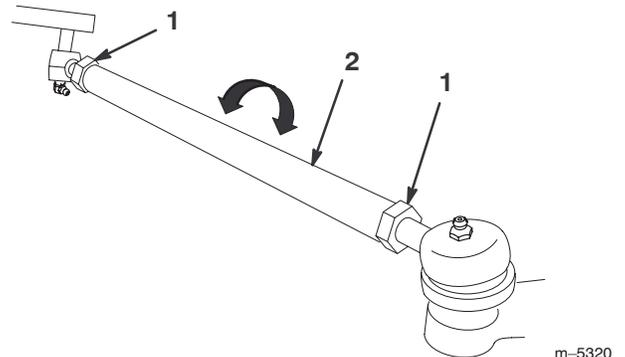

Figure 39
3. If the measurement does not fall within the specified range (refer to the dimensions and parameters at the beginning of this procedure), loosen the jam nuts at both ends of the tie rods (Fig. 39).